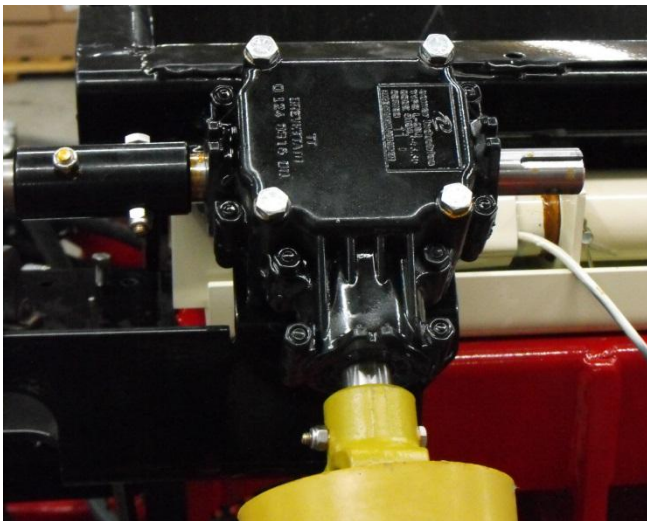

Figure 26
- ☞ The gearboxes located at the back [Figure 26] use NLGI 00 EP grease. Quantity: 0.35 kg